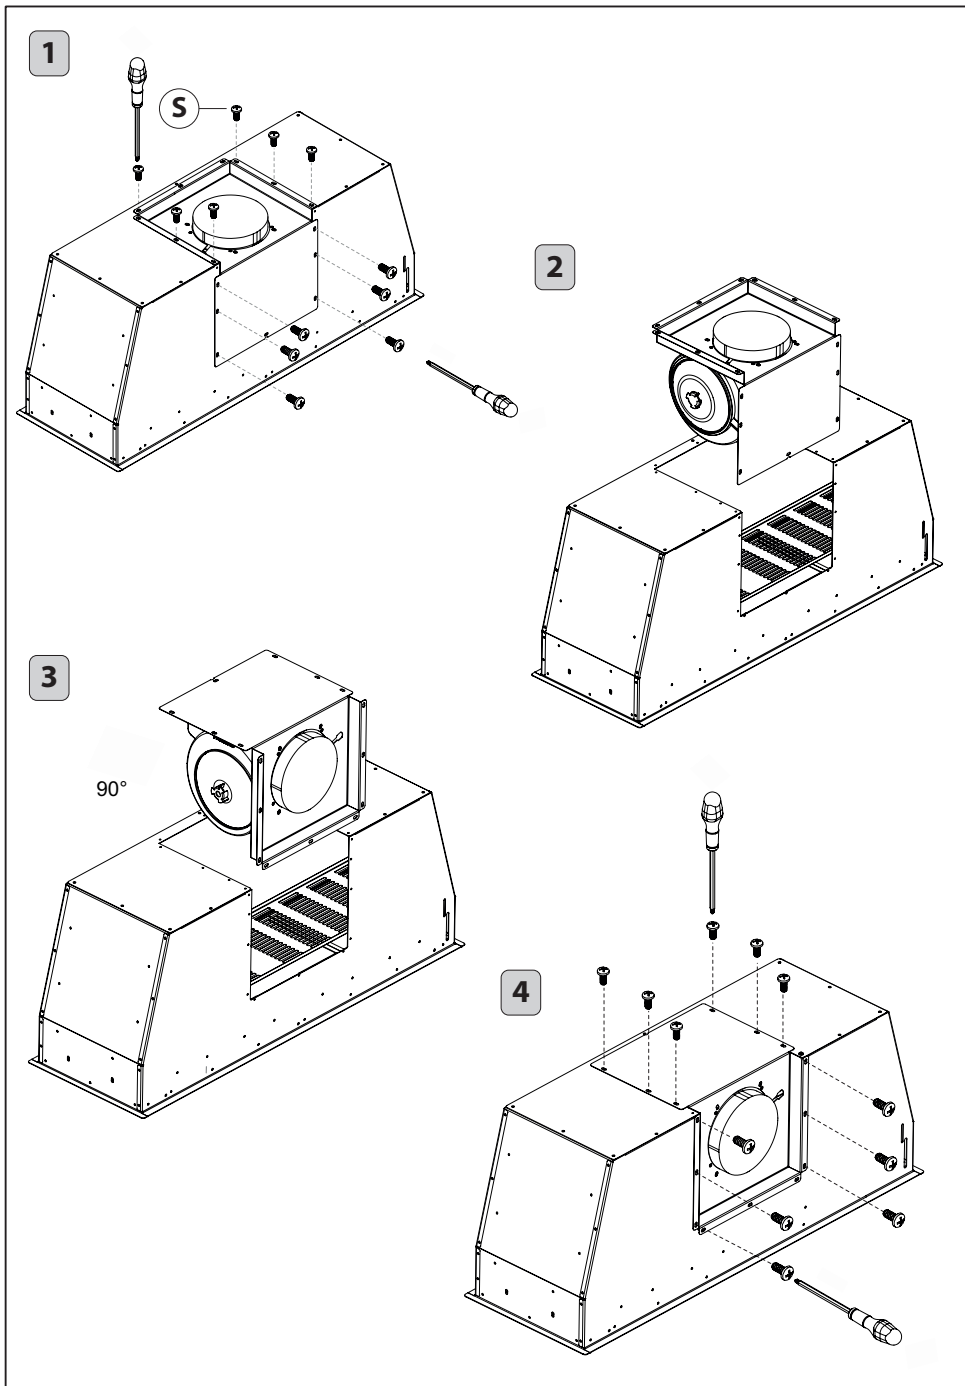

Fig.12
3. Before fixing the hood to the wall unit, establish the direction of the air outlet. If it is necessary to rotate the motor, remove the screws **S** (Fig.12 – phase 1) which attach the motor unit to the hood. Remove the motor unit (Fig.12 – phase 2) and rotate it as shown (Fig.12 – phase 3). Fasten the motor unit to the hood again using the screws **S** (Fig.12 – phase 4).